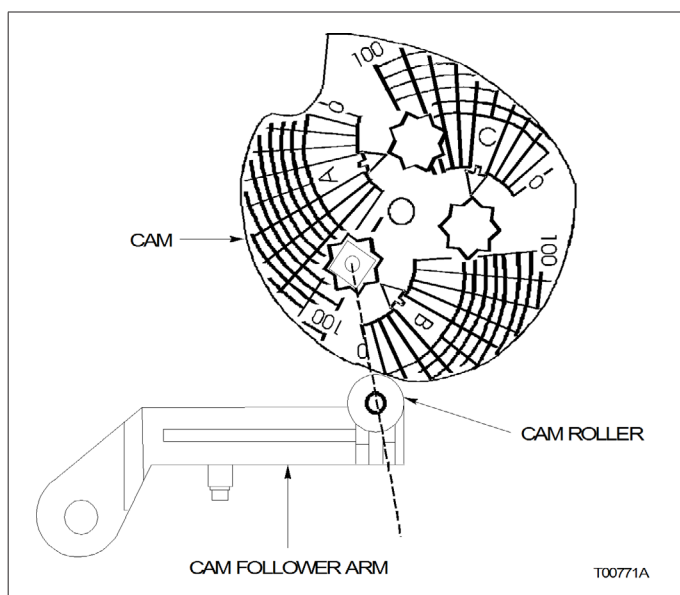

Figure 4-2. Cam Roller Alignment
The positioner zero adjustment sets the tension on the range spring and adjusts the input signal level that causes the actuator to move off of the minimum travel stop. The zero percent radial line of the cam should align with the center of the cam roller (Fig. 4-2).
3. Turn the zero adjustment nut (clockwise moves the actuator toward minimum span) until the zero radial line on the cam intersects with the center of the cam roller (Fig. 4-2).